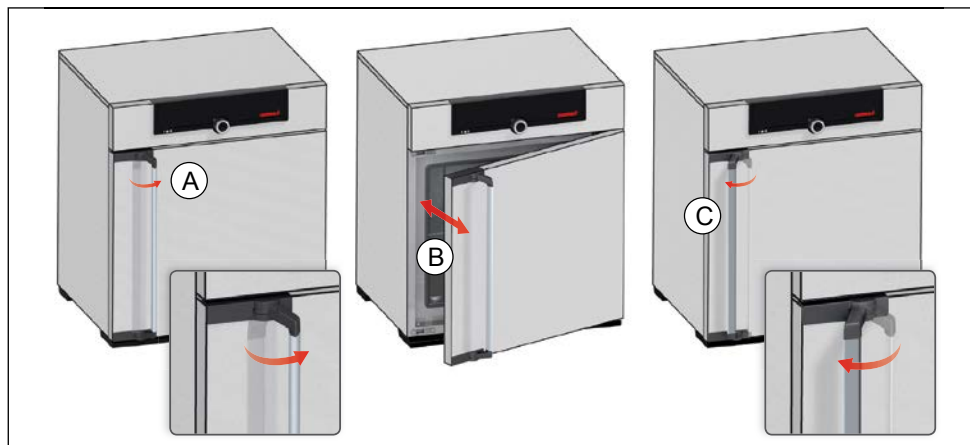

Fig. 14 Opening and closing the door
- ▶ To open the door, pull the handle bar to the side (to the left or to the right, depending on the door variation, see Fig. 14, A). The door opens slightly, so that the heat can be vented with the door ajar in case of high temperature inside the chamber. The door can then be opened completely (B).
- ▶ To close the appliance, push the door closed and the door handle to the side (C).